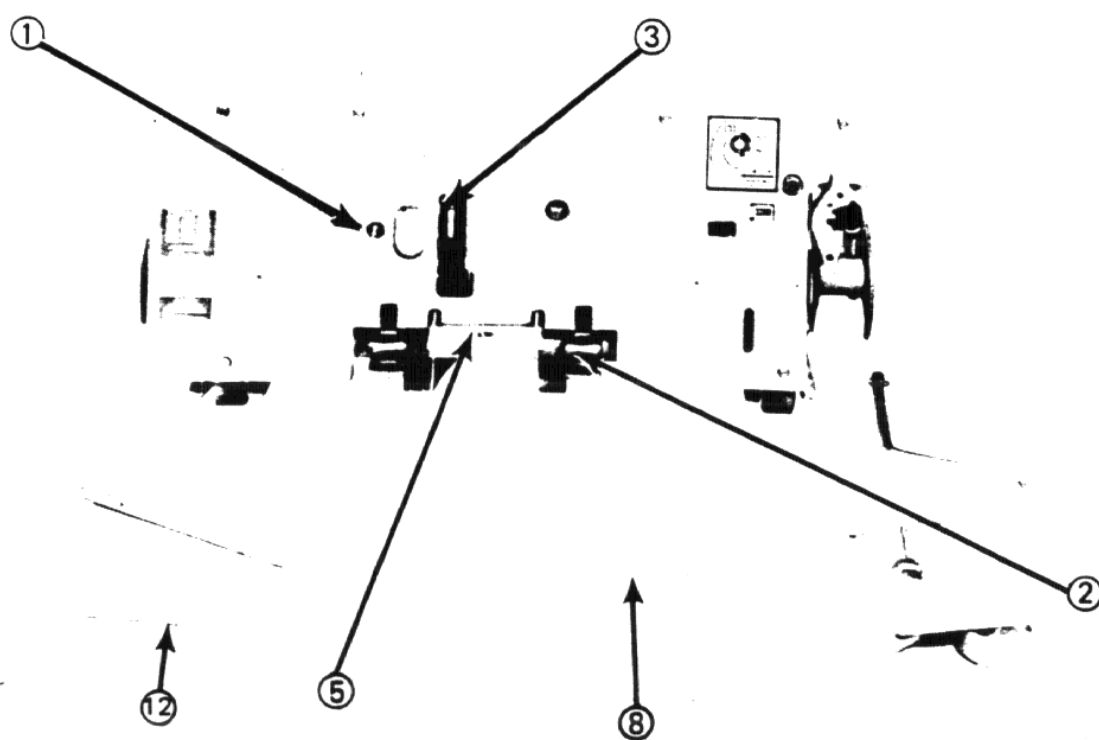

Fig. 3 — Front Circuit Breaker Panel & Accessories
Installing Circuit Breaker Into Compartment (See Figs. 3&4)
Turn motor disconnect switch (1, Fig. 3) to "OFF" position.
For installing the circuit breaker into the lower compartment, the fifth wheel is used to position the breaker so that it is lined up with the switchgear. Engage the fifth wheel (12, Fig. 3)
with hole (5, Fig. 3). The lift device is required to lift and position the breaker for installation into the upper compartment. Guide and push circuit breaker into compartment until stopped. Again engage racking crank and rotate clockwise until racking mechanism automatically stops at "DISCONNECT" position. (Breaker is now held captive in compartment.)
With the circuit breaker racked to "TEST" position, it should be checked for proper operation by operating all possible means of opening and closing, this includes control switches, relays, etc. Turn motor disconnect switch (1, Fig. 3) to "ON" position to charge the closing springs, and operate the breaker as required.
2. Fully closed breaker (See Fig. 3). Charge the closing springs and turn the motor switch (1) off. Close the breaker. Engage manual charge handle (8) with charging lever (3).